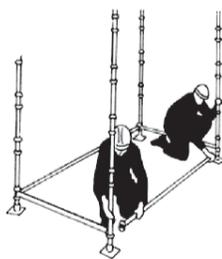

Figure 5
**6** With one erector still holding the first pair of Standards, the second erector inserts an Adjustable Base into the third Standard and connects it to the first pair with a Ledger. The top cups can then be dropped temporarily into the locking position. The structure is now self supporting and the fourth Standard can now be connected by a further Ledger and Transom and the bay levelled. Refer Figure 5.